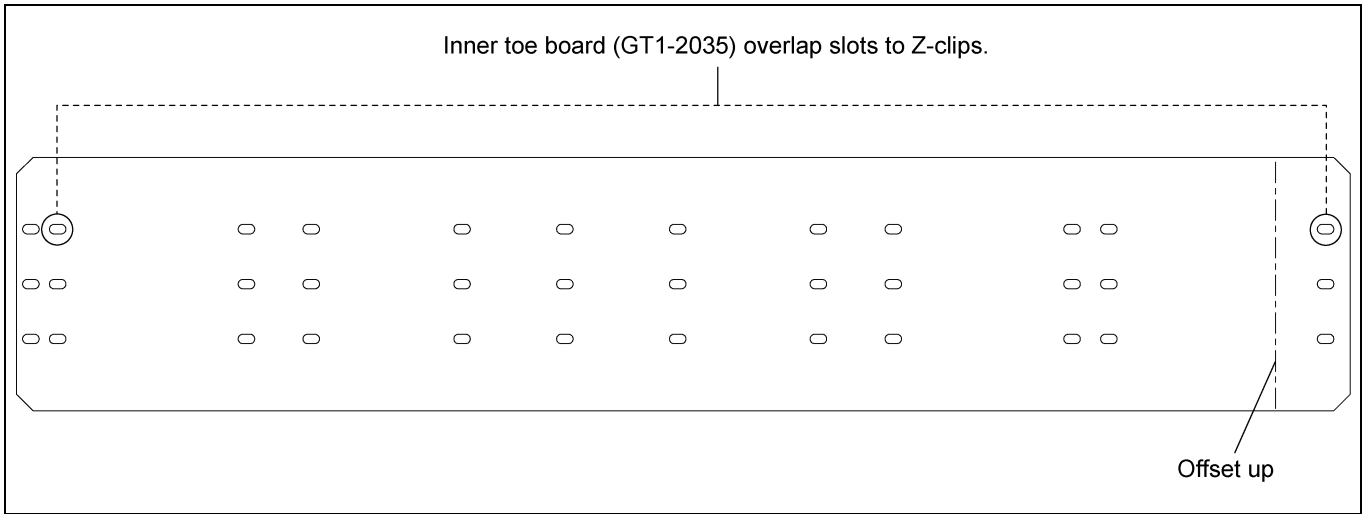

**Figure 6K** Inner Toe Board Installation for Offset and Roof Hatch Catwalks
1. Install the inner toe board (GT1-2035) to the Z-clips (GT1-2036). (See Figure 6K.)
2. All the toe boards should be installed between the Z-clips using 3/8"-16 x 1" YDP grade 8 or grade 8.2 bolts (S-7927) and 3/8"-16 ZN grade 5 nuts (S-968). (See Figure 6K.)